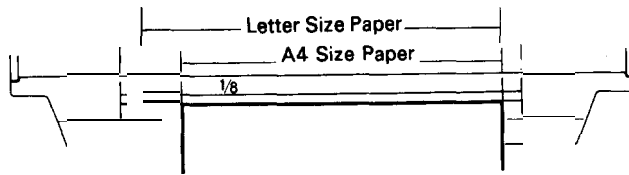

Fig. 25 Setting of Cut Paper Sheet
2. If the paper is set on the line marked 1/4as shown in Fig. 25, then the printing starts from a position 28.6 mm below the top edge of the paper. If the paper is set on the line marked 1/8. then the printing starts from a position 30.2 mm below the top edge of the paper.